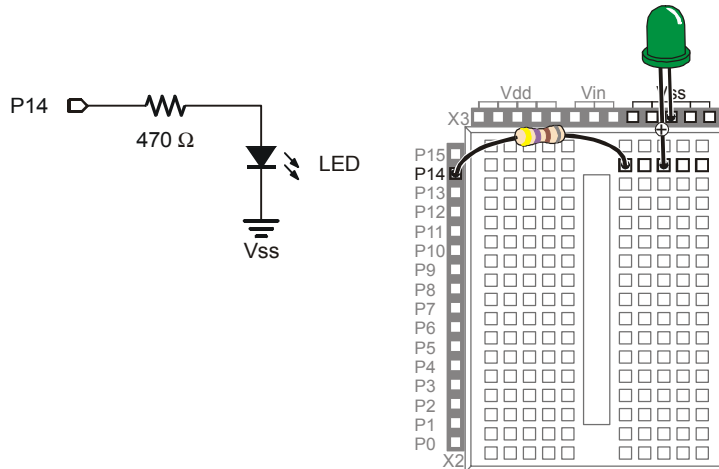

Figure 2-11
The LED circuit shown in Figure 2-11 is wired almost the same as the circuit in the previous exercise. The difference is that the resistor's lead that was manually switched between Vdd and Vss is now plugged into a BASIC Stamp I/O pin.
- ✓ Modify the circuit you were working with in Activity #1 so that it matches Figure 2-11.
Use the example circuit shown in Figure 2-11 on page 48.